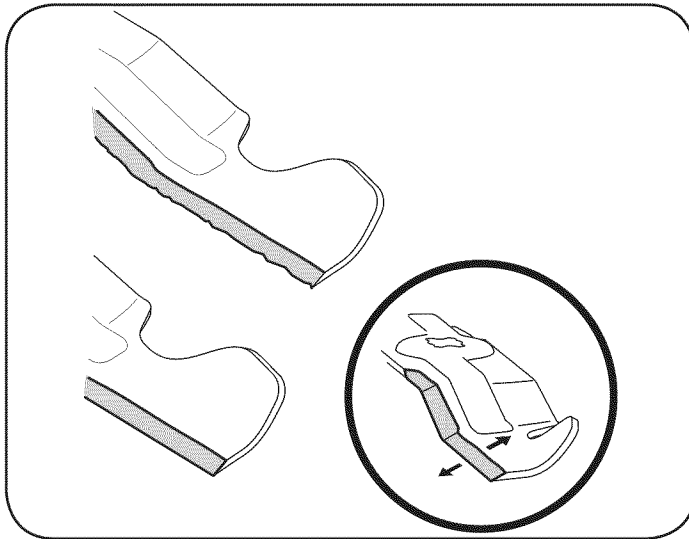

Figure 18
4. To properly sharpen the cutting blades, remove equal amounts of metal from both ends of the blades along the cutting edges, parallel to the trailing edge, at a 25°- 30° angle. Always grind each cutting blade edge equally to maintain proper blade balance. See Figure 18.